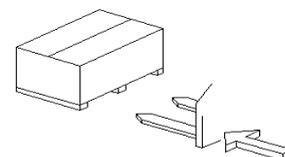

Fig 8
**Move the device with a forklift truck as illustrated in Fig 8.**